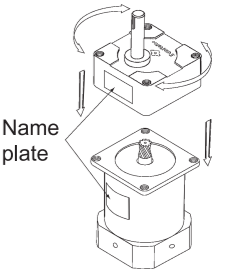

Fig. 2
- Install motor and gearhead, putting both contact surfaces together like fig.2 while rotating them little by little. Forcing into motor shaft and bumping into the inside of gearhead, at assembly, may cause abnormal noise by broken gear and shorten the operating life.